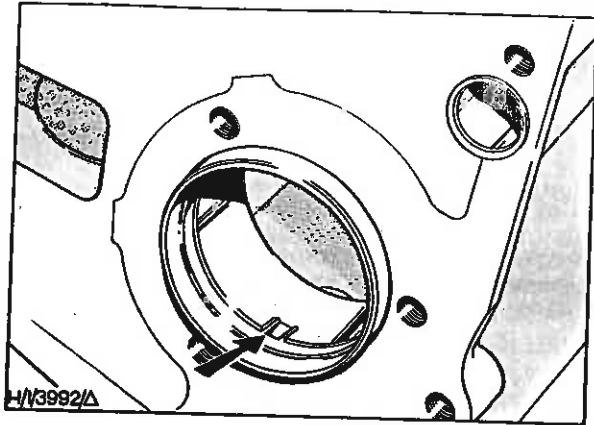

Fig. 37 - Camshaft Front Bearing Tang.
4. Bend up the tang on the camshaft front bearing (Fig. 37).
11. After fitting the front bearing, bend the tang into the locating hole in the cylinder block - see Fig. 37.